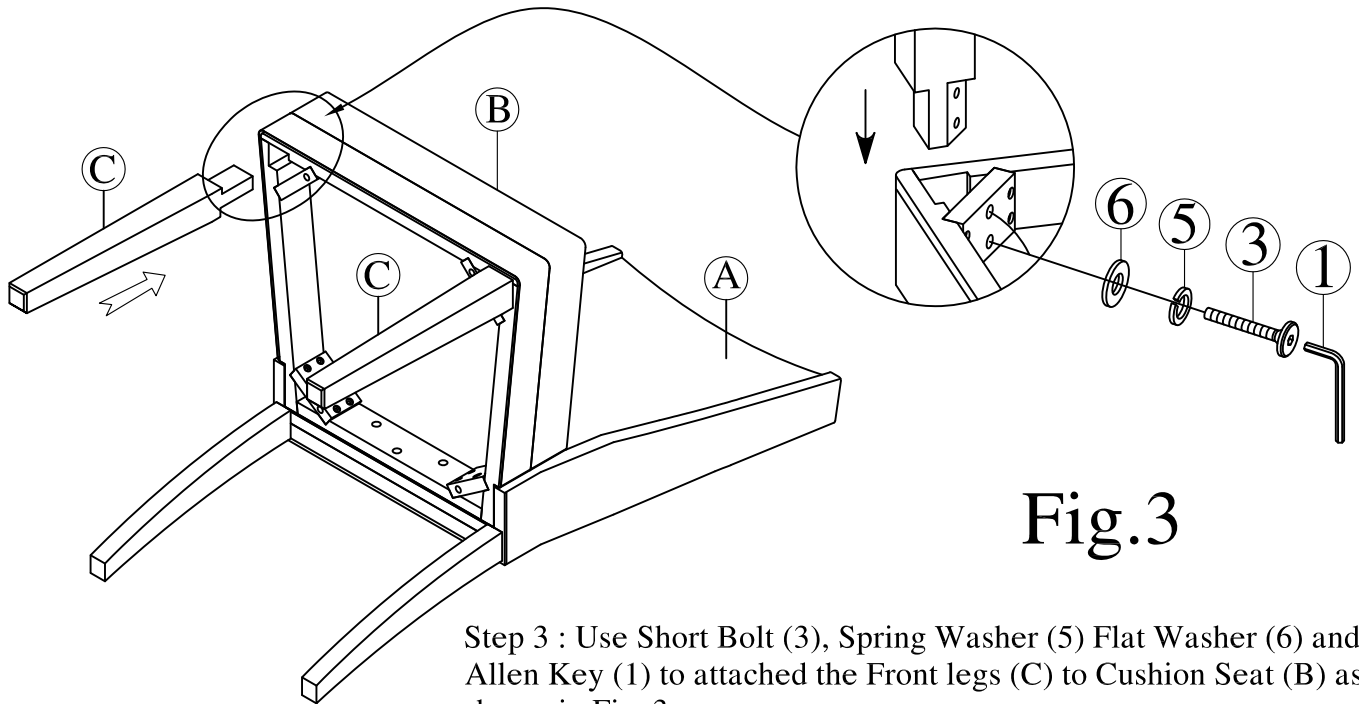

Fig.3
Step 3 : Use Short Bolt (3), Spring Washer (5) Flat Washer (6) and Allen Key (1) to attached the Front legs (C) to Cushion Seat (B) as shown in Fig. 3 .